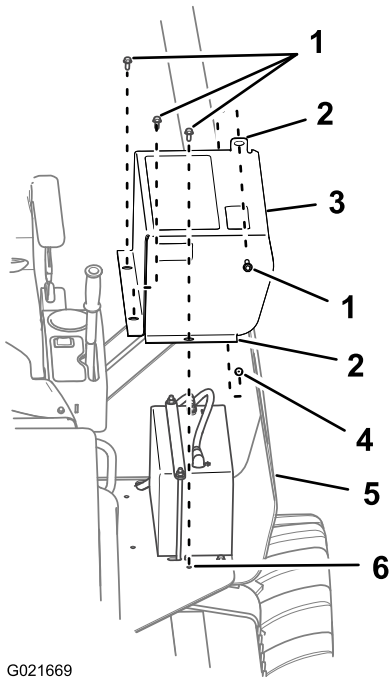

Figure 57
2. Remove the bolt that secures the battery cover to the ROPS plate (Figure 57).
3. Remove the 3 bolts that secure the battery cover to the operator platform, and remove the battery cover (Figure 57).
1. Align the holes in the mounting flanges for the battery cover with the holes in the operator platform around the battery (Figure 57).
2. Secure the battery cover to the ROPS plate with a bolt (Figure 57).
3. Secure the battery cover to the operator platform with the 3 bolts that you previously removed (Figure 57).